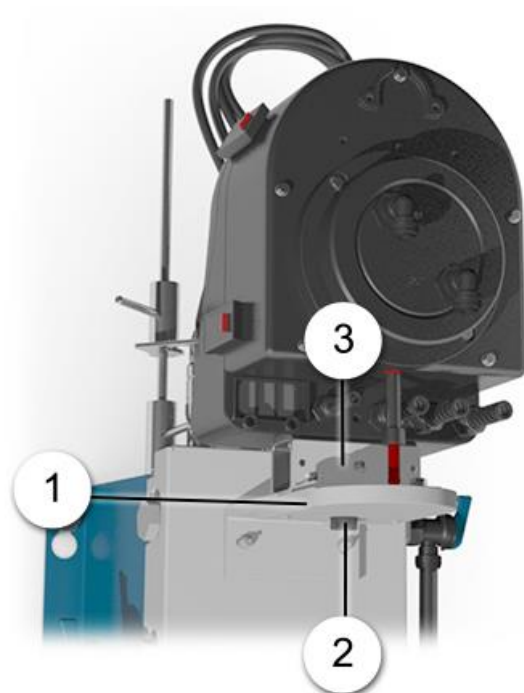

Figure 20: Photometer fastened to docking station
2.	Remove the photometer from the measuring position and attach on the docking station (Figure 20, pos. 1). Pay attention to the milled area (dark colored area).
3.	Fasten the photometer to the docking station with the knurled screw (Figure 20, pos. 2).